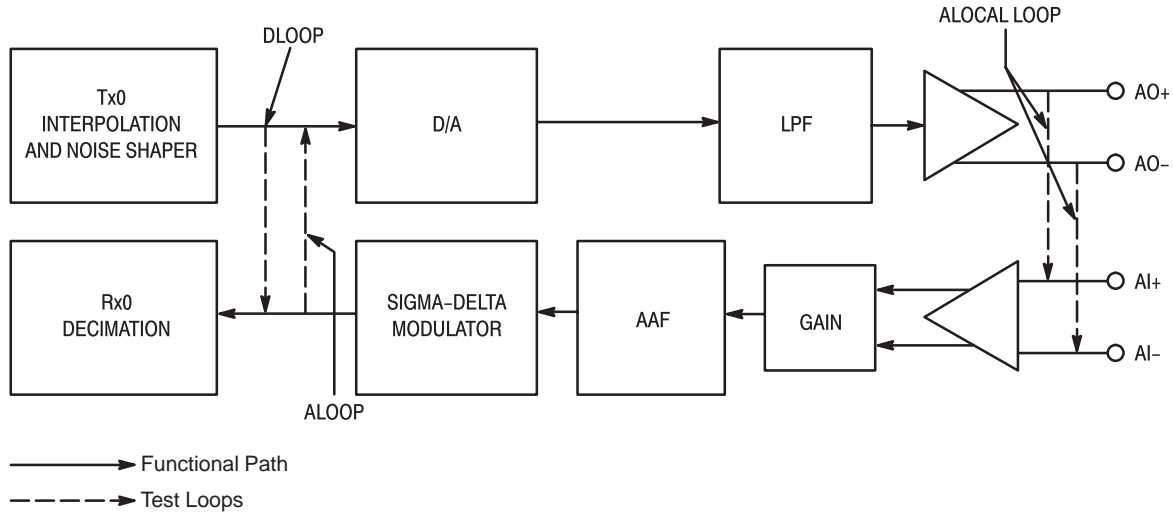

Figure 4. Digital and Analog Loopback Features
**ALOOP (R/W, 0):** This bit controls the remote loopback function at the analog/digital interface. Setting this bit to 1 will force the single bit modulated output from Rx in the codec to loopback into the single bit input of the D/A. See Figure 4.
**DLOOP (R/W, 0):** Setting this bit to 1 will force a digital loopback in the codec. This occurs at a point between the output of digital interpolator filter and the input of the digital decimator filter. See Figure 4.
**ALOCAL LOOP (R/W, 0):** As opposed to the ALOOP bit of this register, ALOCAL LOOP closes a local loopback at the analog interface. When this bit is set active (1), the analog output signal on pins AO0+ and AO0- is fed back into the input amplifier stage on pins AI0+ and AI0-. See Figure 4.